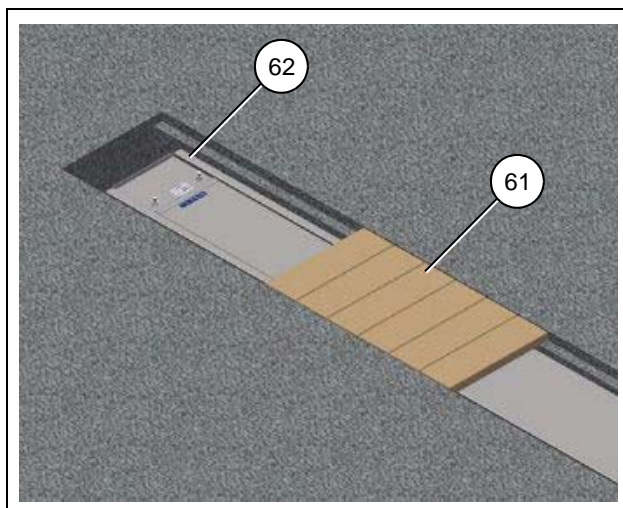

Figure 4K
3. Install the floor flanges over the gates. Use the wood or metal planking (61) to the cover exposed unloader between the gates (not provided). (See Figure 4K.)